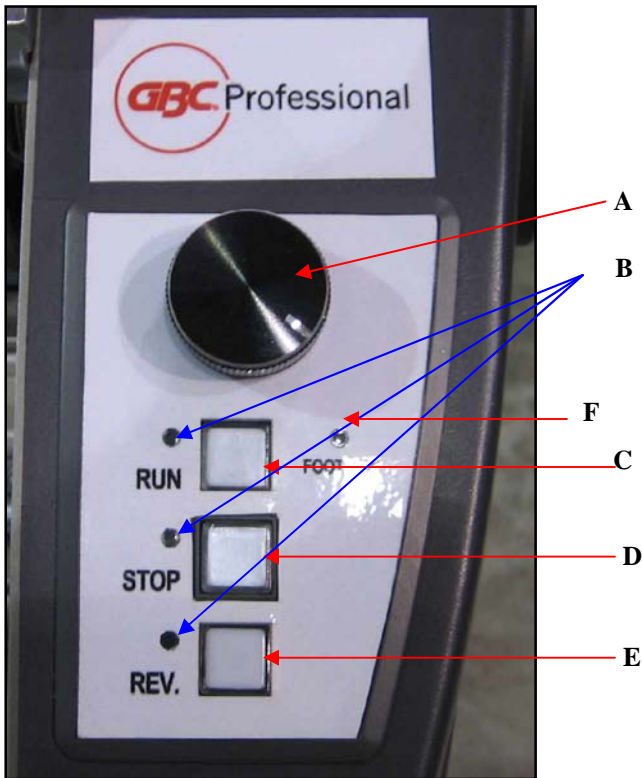

Fig. 5-10. Control Panel
A. Speed Adjustment (Figure 5-10)